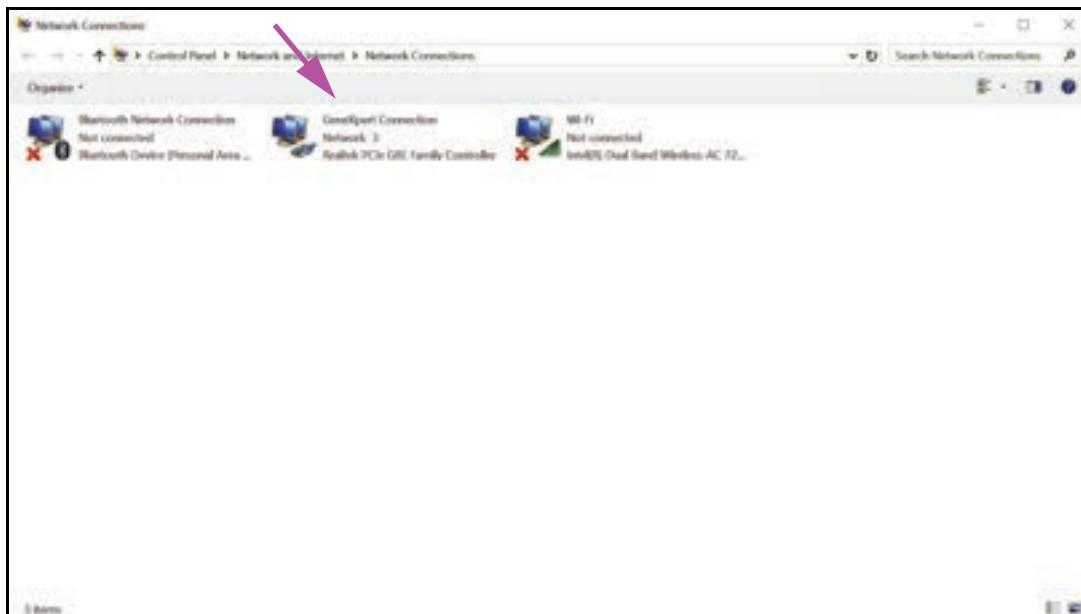

Figure 2-46. Network Connections Screen
5. Click **Change adapter settings**. The Network Connections screen appears. See Figure 2-46.